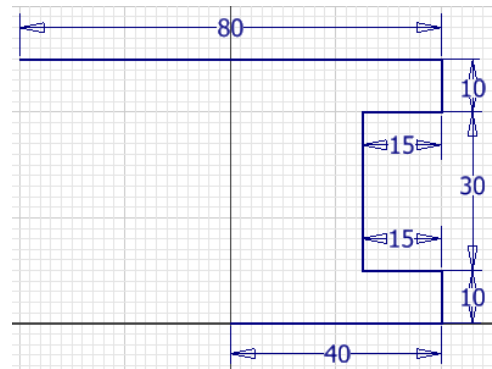

Figure 2-99(d) Dimensioning the sketch
7. Draw the remaining lines, as shown in Figure 2-99(e).